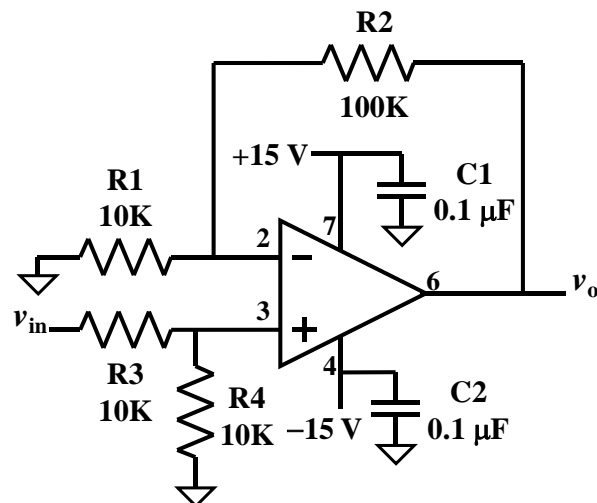

Fig. 4. Third op-amp circuit.
- Use $\pm V_{CC} = \pm 15\text{ V}$ for all circuits; that is $+V = 15\text{ V}$ and $-V = -15\text{ V}$. For all circuits except circuit 3 in Fig. 4, make sure that the input voltage, v_{in} , has no dc-offset voltage.
4. Consider the third circuit in Fig. 4.